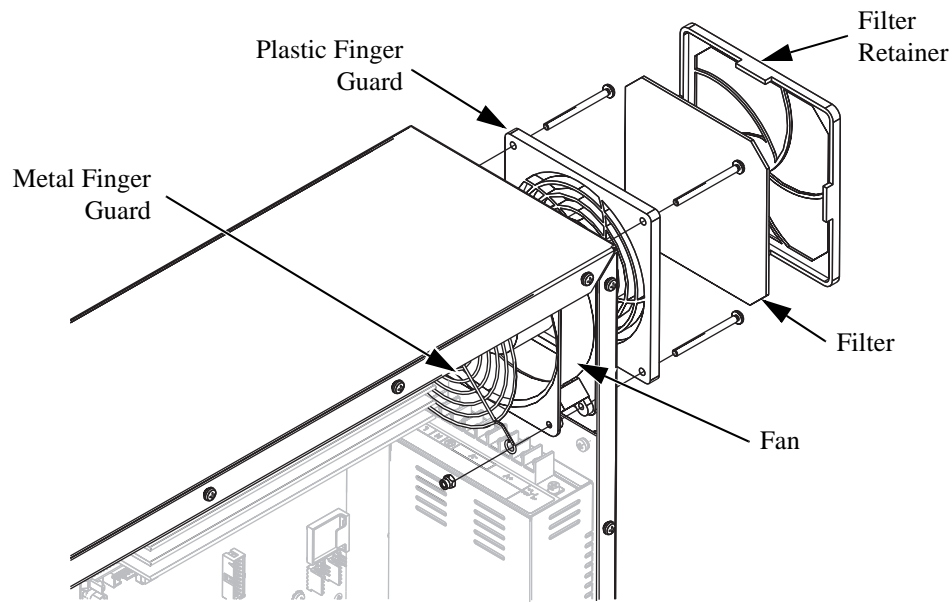

Figure 9-41 Removing the Intake Fan
4. Use a flat-head screwdriver (or similar tool) to remove the filter retainer and foam filter from the plastic finger guard on the outside of the electronics enclosure (see Figure 9-41).
5. While supporting the fan, use a Phillips-head screwdriver and an adjustable crescent wrench to remove the fan mounting screws, hex nuts, metal finger guard, and plastic finger guard (see Figure 9-41). Retain all mounting hardware.